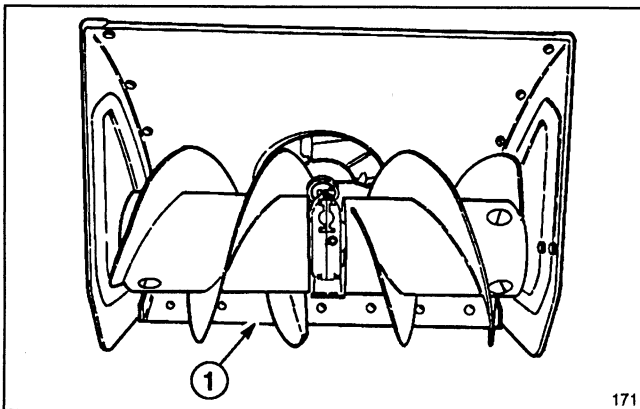

Figure 7
- Move the snowthrower onto a flat surface and check if scraper (Fig. 7) is parallel to the ground. If not, adjust scraper; refer to Adjusting Scraper, page 15.